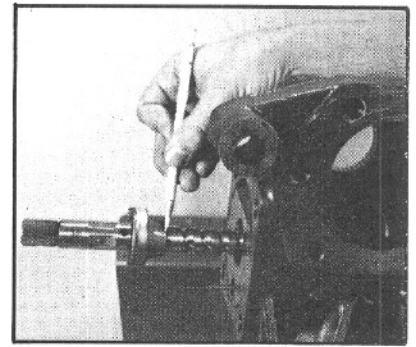

Figure 125
25. Locate the scribed timing mark on the worm shaft (FIG. 125).